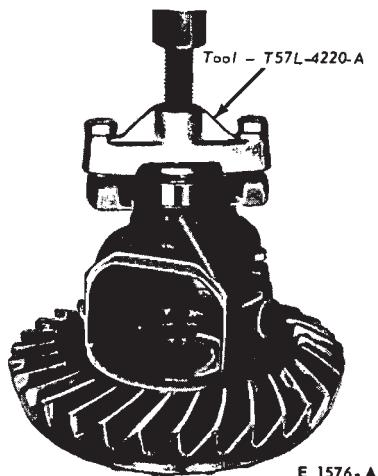

FIG. 15—Differential Bearing Removal
1. If the 2 differential side bearings are to be removed from the differential case, use the tool shown in Fig. 15.